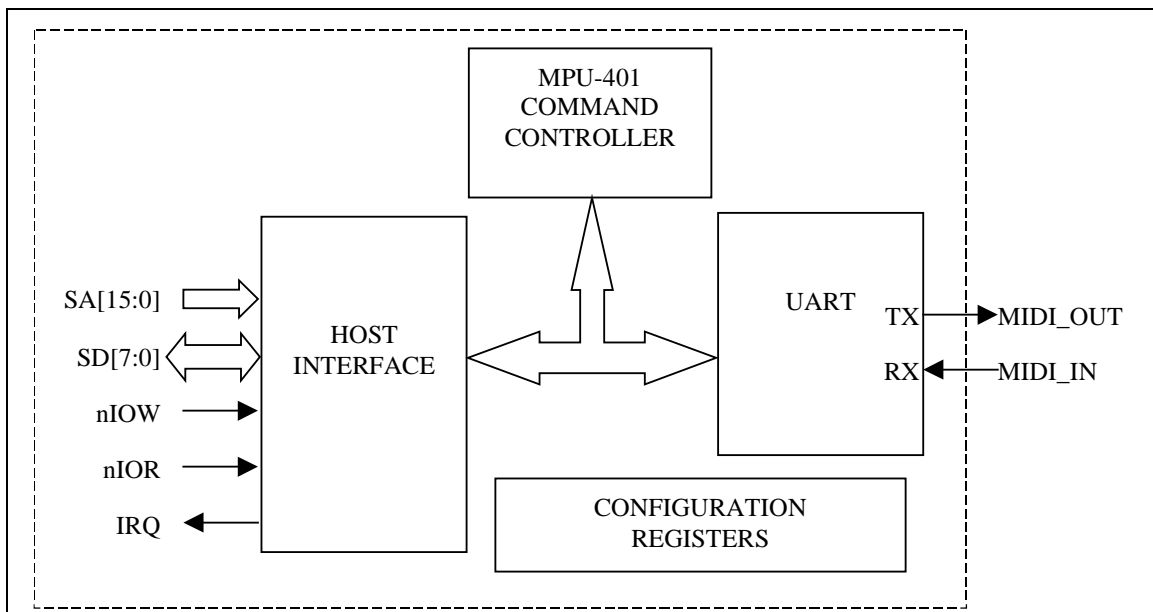

FIGURE 2 – MPU-401 MIDI INTERFACE
Serial Port 3 is used exclusively in the LPC47M15x as an MPU-401-compatible MIDI Interface. The LPC47M15x MPU-401 hardware includes a Host Interface, an MPU-401 command controller, configuration registers, and a compatible UART (FIGURE 2).
The Host Interface includes two contiguous 8-bit run-time registers (the Status/Command Port and the Data Port), and an interrupt. For illustration purposes, the Host Interface block shown in FIGURE 2 uses standard ISA signaling. Address decoding and interrupt selection for the Host Interface are determined by device configuration registers (see Section “MPU-401 Configuration Registers”).
- Note 3:** IRQ is the MPU-401 Host Interface IRQ shown in FIGURE 2. The 16C550A UART Receive FIFO Threshold=1.
Commands are written by the host to the MPU-401 MIDI Interface through the Command register (Table 33) and are immediately interpreted by the MPU-401 Command Controller shown in FIGURE 2. The MPU-401 Command Controller in this implementation only responds to the MPU-401 RESET (FFh) and UART MODE (3Fh) commands. All other commands are ignored.